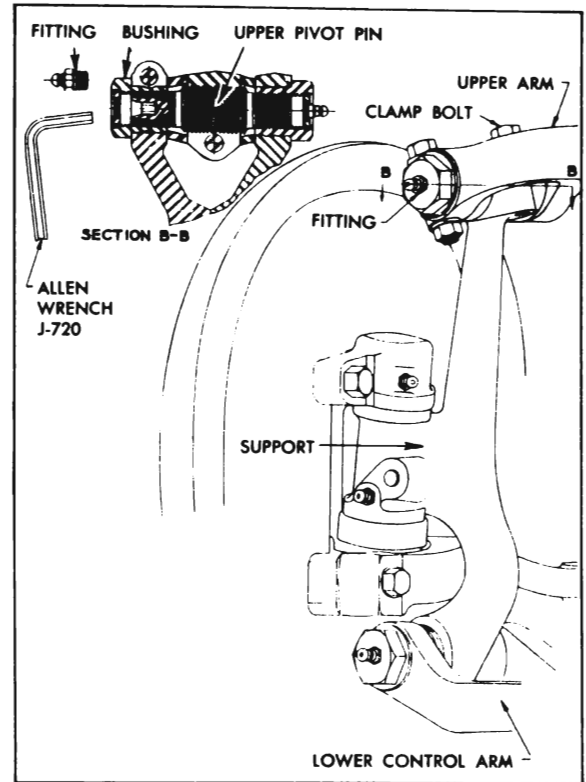

Figure 7-17—Steering Knuckle Support and Pivot Pins
1. Loosen pivot pin clamp bolt on upper end of knuckle support. Remove grease fitting from the clamped type upper pivot pin bushing. This bushing is on front end of the right pivot pin and on rear end of left pivot pin. See figure 7-17.